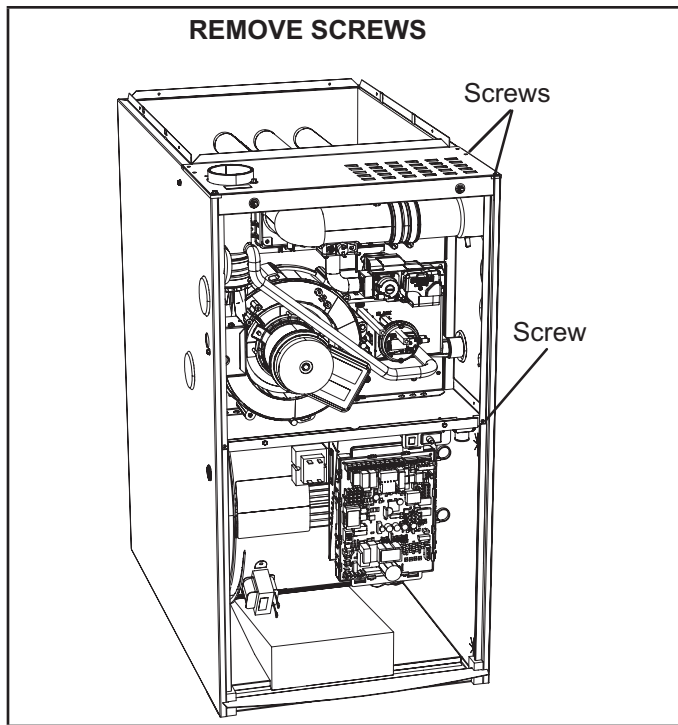

FIGURE 54
- 5 - Remove the air intake coupling. If the air intake coupling is still too difficult to remove, then remove the two screws from the right side of the top cap and one from the far right side of the blower deck that attaches to the cabinet. See FIGURE 54. Carefully pull cabinet side away from air intake coupling, then remove the air intake coupling. Note: Be careful not to bend the cabinet side.